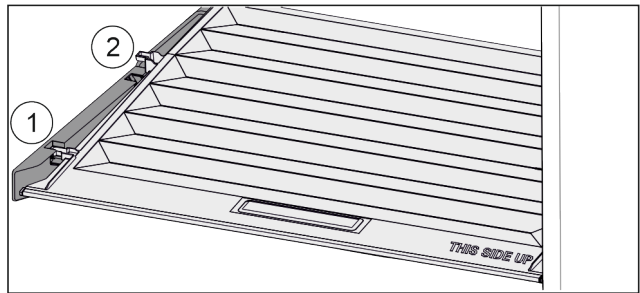

Fig. 46
- ▶ Pull the lid up at the front to the opening in the retaining parts Fig. 46 (1).
- ▶ Lift from the back and pull it up and out Fig. 46 (2).